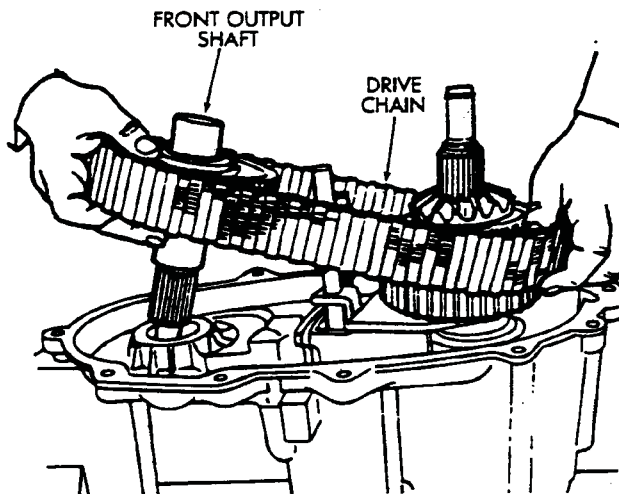

Fig. 4-59 Install Drive Chain And Front Output Shaft
56. Install drive chain and front output shaft (Fig. 4-59).